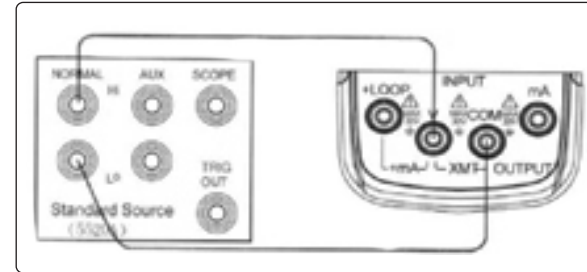

Figure 10-3
- 2) Connect to the Instrument as shown in Figure 10-3;
- 4) Set the output of standard source as the value given in Table 10-3 and when the output stabilized, press the key (100%/START), and the LCD displays 'SAVE' denoting that the calibrated point has been stored.